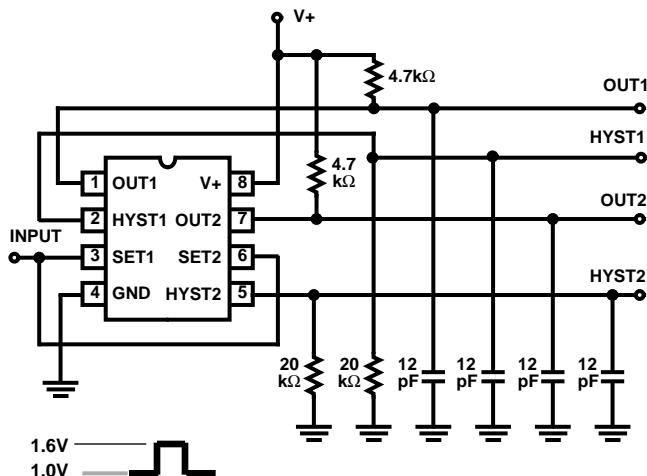

FIGURE 7. TEST CIRCUITS
**Electrical Specifications** The specifications below are applicable to both the ICL7665S and ICL7665SA. V+ = 5V, TA = +25°C, Test Circuit Figure 7. Unless Otherwise Specified
**Electrical Specifications** The specifications below are applicable to both the ICL7665S and ICL7665SA.  $V_+ = 5V$ ,  $T_A = +25^\circ\text{C}$ , Test Circuit Figure 7. Unless Otherwise Specified **(Continued)**